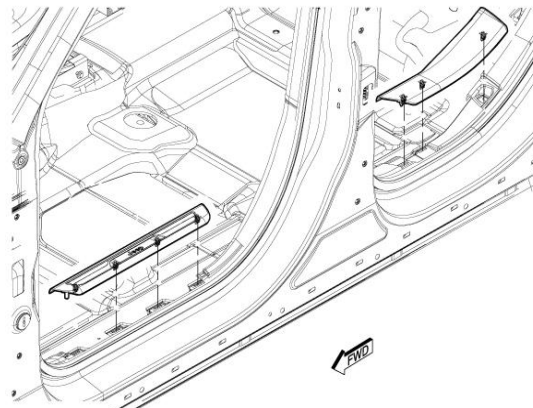

Figure 13 – Door Sill Plates
23. Using a trim stick, disengage the retaining tabs that secure all four door sill scuff plates to the retaining clips in the door sills and remove the scuff plates (Figure 13).